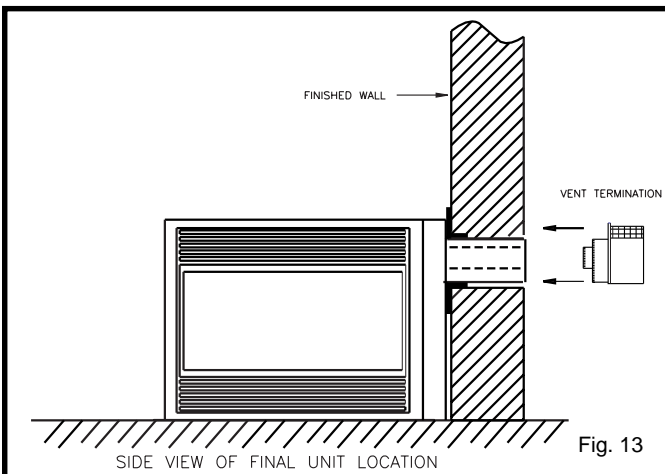

Fig. 13
Measure from fireplace collar to face of outside wall (add 2" for vent pipe overlap). Mark pipes and cut to length. It is very important that the two pipes are flush with the outside wall once the fireplace is in its final location. Fig. 13.
Slip 4" and 7" pipes onto respective flue collars. Make sure to fix to the fireplace collar the 4" pipe with three (3) screws before fixing the 7" pipe on the 7" collar. Both pipes must be on a level plane. Fig. 13.
Guide the vent termination 4" collar into the 4" pipe then the 7" collar into the 7" pipe. Do not force the venting into position. If the pipes do not line up with the termination collars, disassemble pipes and reattach to the fireplace collar. (Fig. 13)